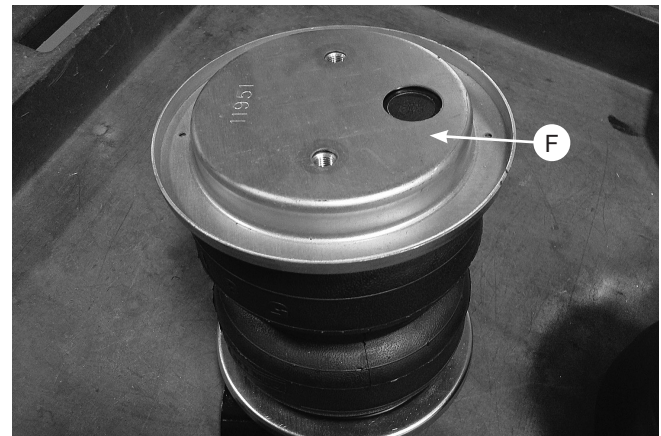

Fig. 10
3. Flip the assemblies over and set a roll plate (F) onto the bottom of the air springs (Fig. 10).